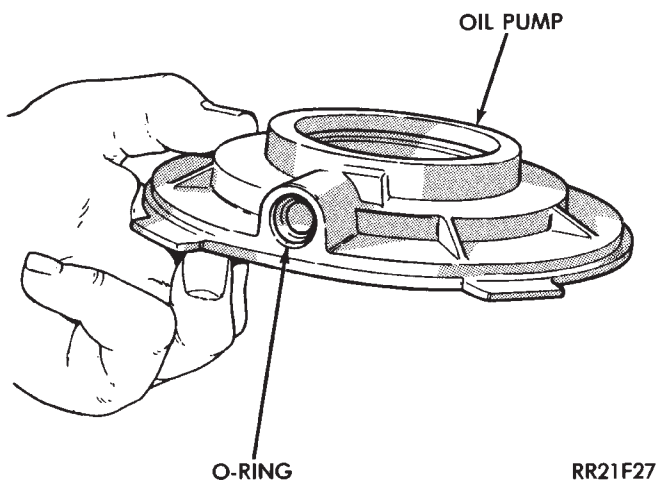

Fig. 8 Pickup Tube O-Ring Location
(16) Remove pickup tube O-ring from oil pump (Fig. 8).